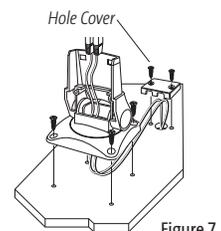
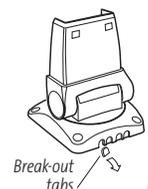

Figure 7
Figure 8
- 1b. If the cables cannot be routed directly beneath the mounting bracket, mark and drill a 1" (25 mm) hole that will allow you to run the cables close to the bracket. Pass the cables through the 1" (25 mm) hole, through the mounting base, and out of the top of the mounting bracket (Figure 7). Using needle-nose pliers, break out the tabs on the rear of the mounting base (Figure 8). Place the Hole Cover over the mounting surface hole, then use it to mark the position of the two mounting screws. Remove the Hole Cover, drill the two mounting holes using a  $\frac{9}{64}$ " (3.5 mm) bit, fill them with marine-grade silicone, then replace the Hole Cover and insert the #8 Phillips countersink wood screws. Hand-tighten only.